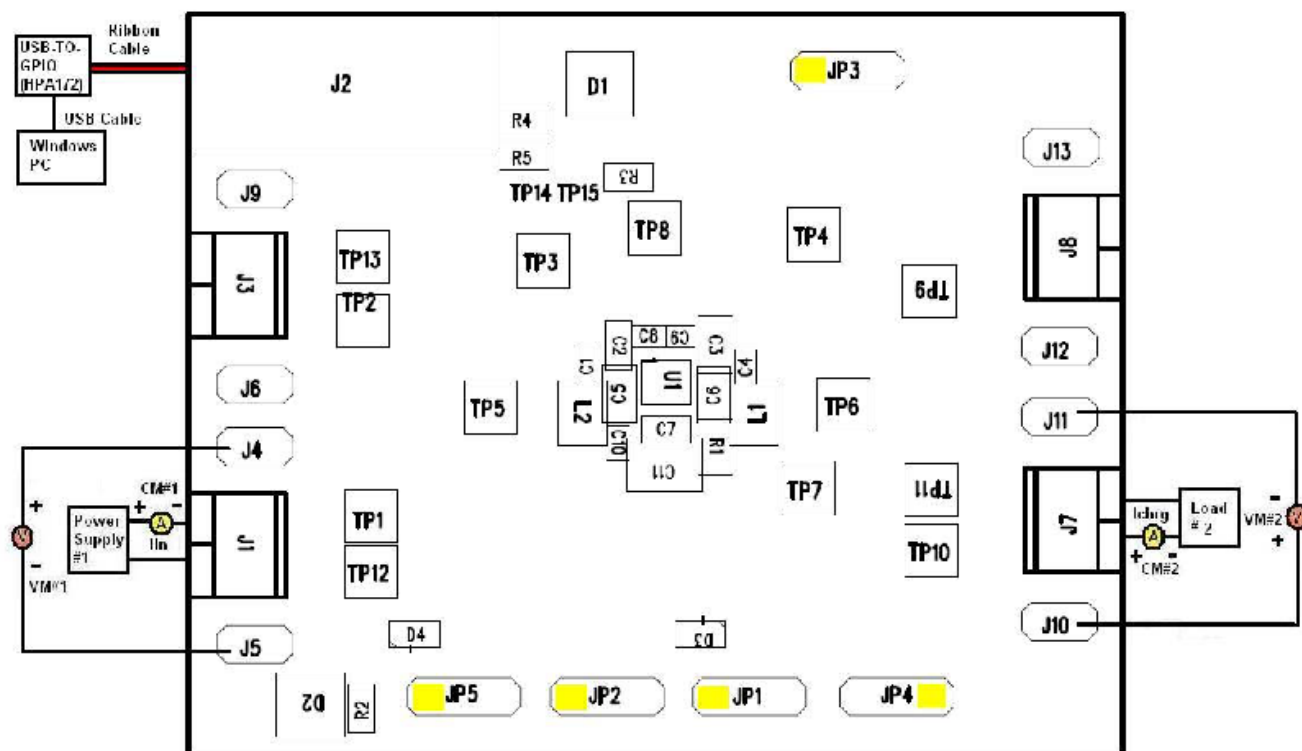

Figure 2. Test Setup for Charging From VIN
9. After the preceding steps have been performed, the test setup for charging from VIN is shown in Figure 2